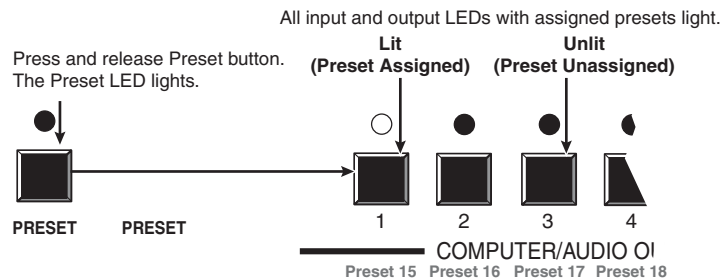

Figure 3-43 — Enter Recall Preset mode
2. Press and release the Preset button (figure 3-43).